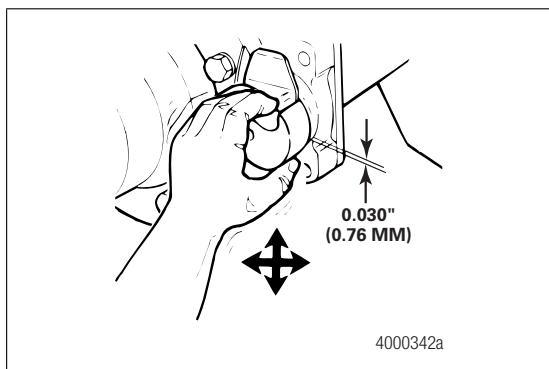

Figure 3.11
1. Before you remove the automatic slack adjuster and camshaft, verify that cam-to-bushing radial free play is within specification. Figure 3.11. Because the bushing wears in one direction, it is important to rotate the camshaft in all directions when you check for radial free play.